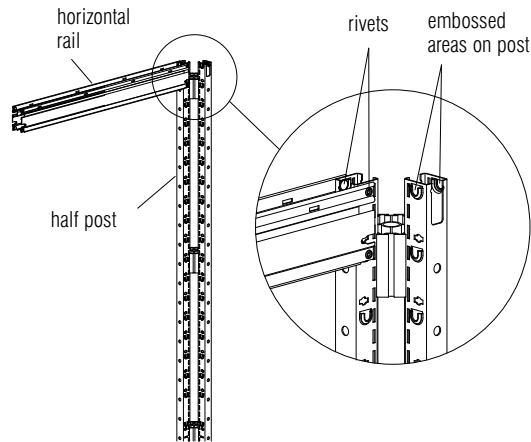

Figure 5
1. Slide a horizontal into the top of a vertical half post with the rivets above the pocket on the post. Making sure all four rivets are lined up with the corresponding embosses, tap the horizontal into place with a dead-blow style mallet. **Figure 5.**